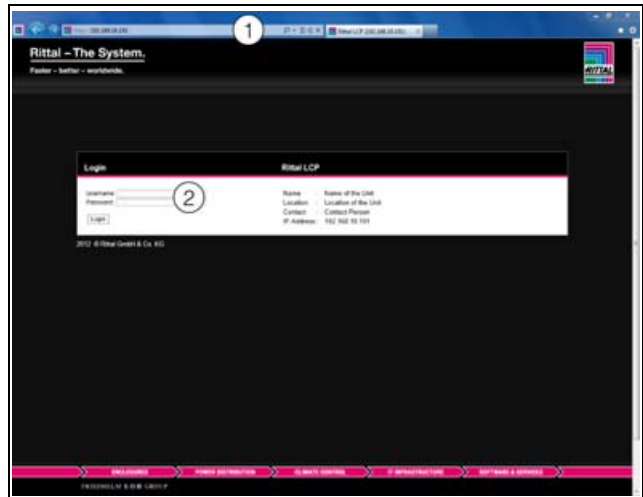

Fig. 75: Log-on screen with an HTTP connection
- In the browser, enter the address **http://192.168.0.190** (fig. 75, item 1). The log-on dialogue for registering the device will appear.
- Log in with the username **admin** and the password **admin** (fig. 75, item 2).